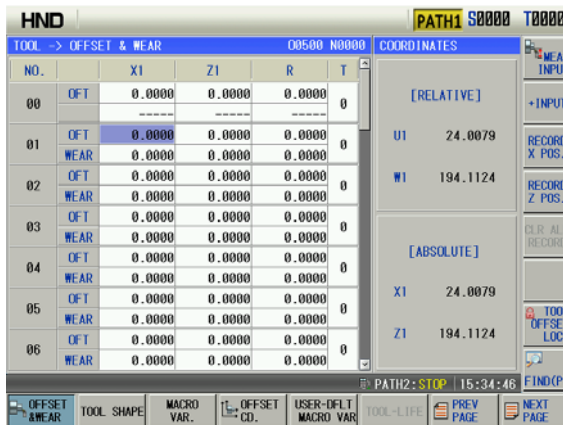

Fig.1
- 1) Press  to enter the tool offset interface, and then press  to enter the tool offset page, refer to the following Fig.1.